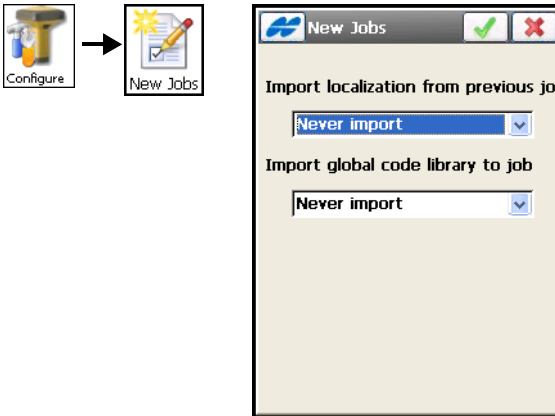

Figure 4-101. New Jobs
1. To set parameters for automatic import of global code library and localization data from the previous job, tap the **Configure ► New Jobs** icons. The *New Jobs* screen displays (Figure 4-101 on page 4-80).